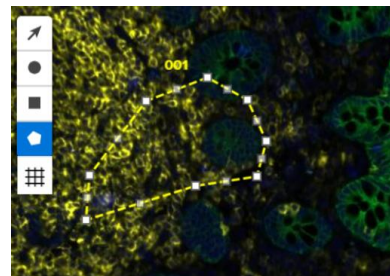

Figure 26: Scan Workspace polygon button
1. Select the **polygon button** from the Scan Workspace \(see Figure 26\).